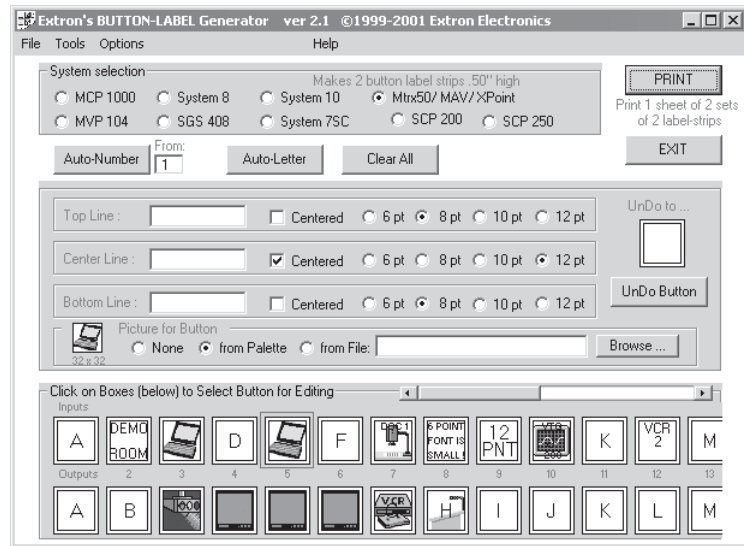

Figure 5-3 — Extron's Button-Label Generator window
1. To run the Button-Label Generator program, double-click on the Button-Label Generator icon (shown at left) in the Extron Electronics group or folder, and click OK when prompted. The Extron's Button-Label Generator window appears (figure 5-3).